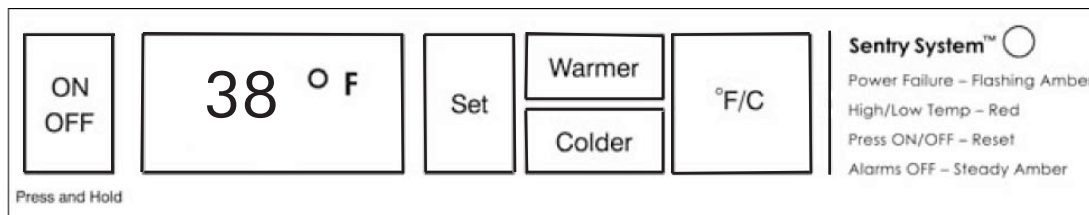

Figure 2
If your appliance’s control has been shut-off (i.e., unit plugged in, interior lights operate, display blank), unit must be turned on. To turn on your appliance, push and hold for five (5) seconds, the “ON/OFF” button located on the display panel (see Figure 2).